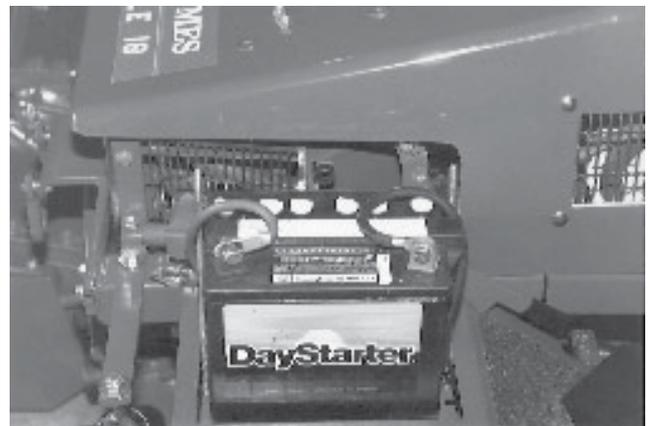

Fig.35
**BATTERY (Fig.35)**
**ACCU (Afb.35)**
**BATTERIE (Fig. 35)**